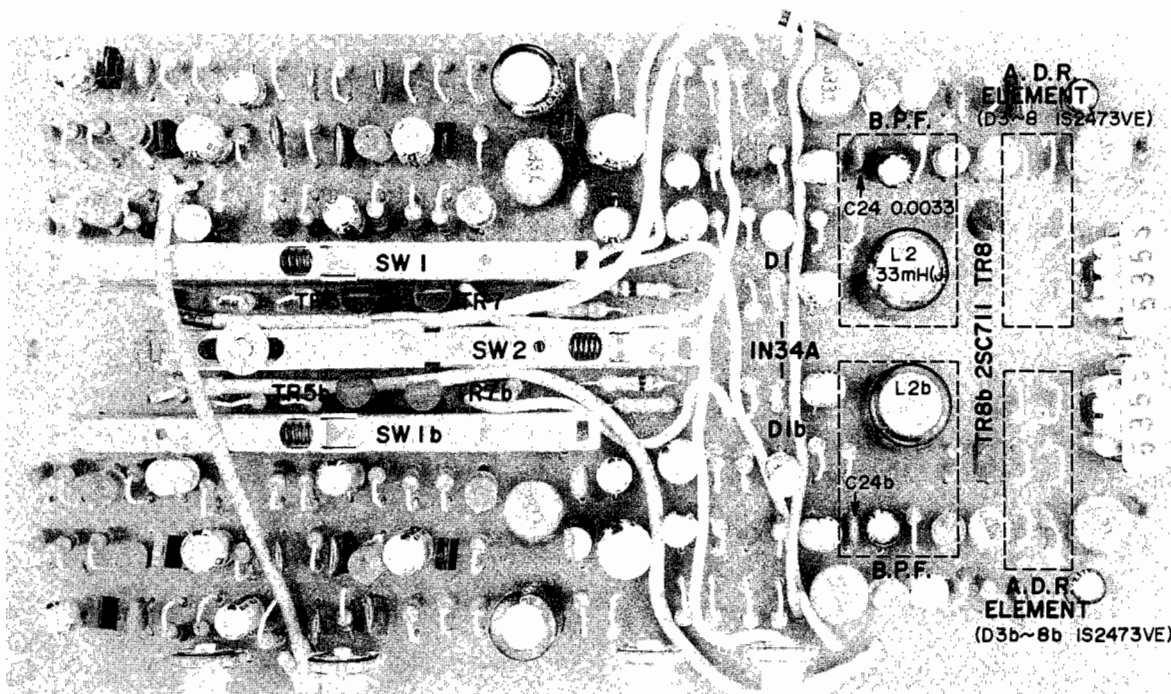

Fig. 51
1. OPERATING PRINCIPALS OF A.D.R. (AUTOMATIC DISTORTION REDUCTION) SYSTEM (Refer to Figs. 51 and 52)